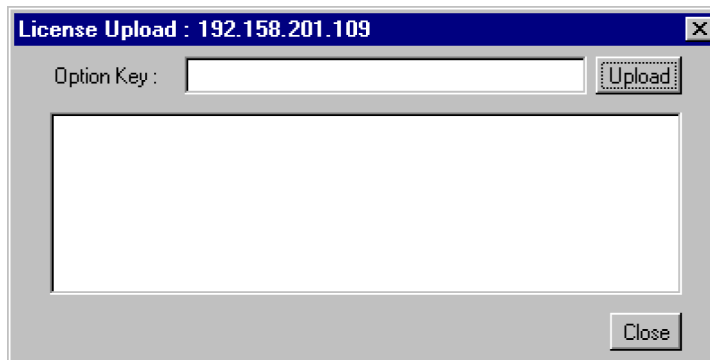

Figure 25: License Upload dialog box (RUI v2.6.1 and below)
11. In the Configuration screen, click **Upload License** to open the License Upload dialog box. (See Figure 25.)